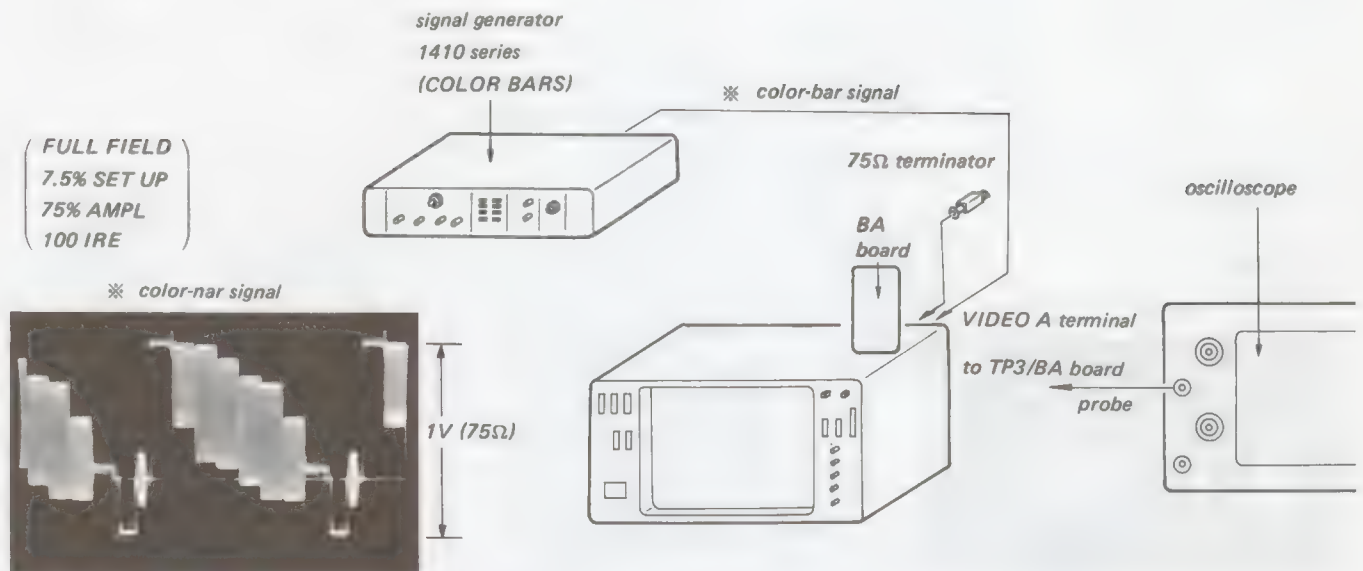

Fig. 5-39.
1. Complete the connections as shown in Fig. 5-39.